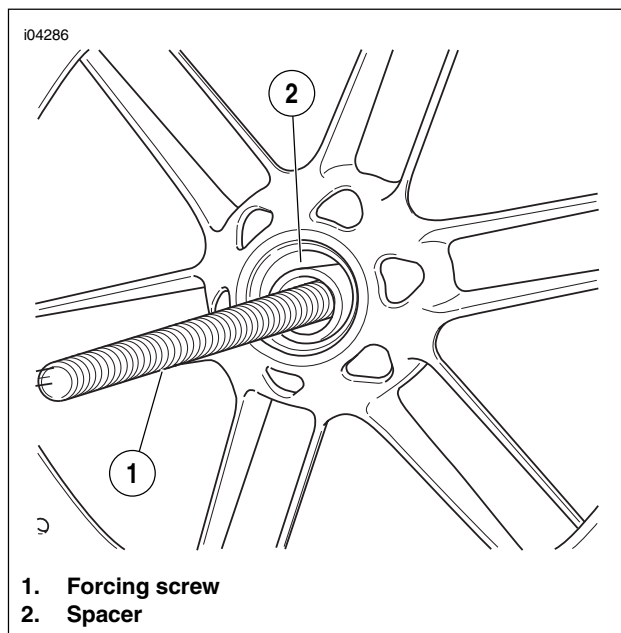

Figure 2-15. Install the Spacer
10. See Figure 2-15. Install the spacer.
See Figure 2-15. Center the spacer while installing the wheel bearing. Failure to center the spacer could cause the bearing not to pull in straight.